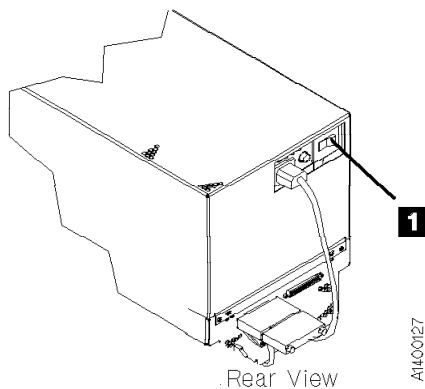

Figure 223. Subsystem Power Switch
2. Switch OFF power to the failing device by using the power switch on the back of the device. See Figure 223 on page PROC-6 for the location of power switch.
12. Switch OFF power to the failing device by using the power switch on the back of the device. See Figure 223 on page PROC-6 for location of power switch.
16. Switch OFF power to the failing device by using the power switch on the back of the device. See Figure 223 on page PROC-6 for location of power switch.